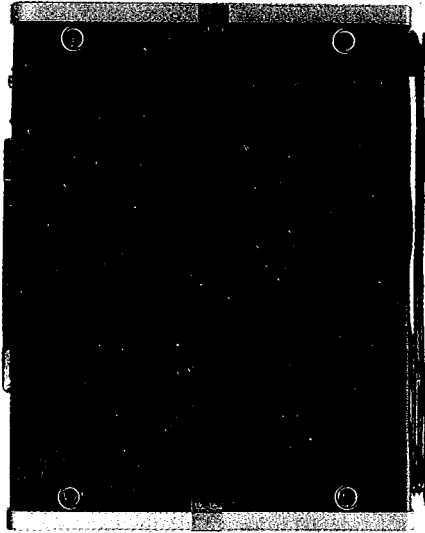

Figure 1
- (1) Set the unit up on its side and remove the four screws as shown in Figure 1.